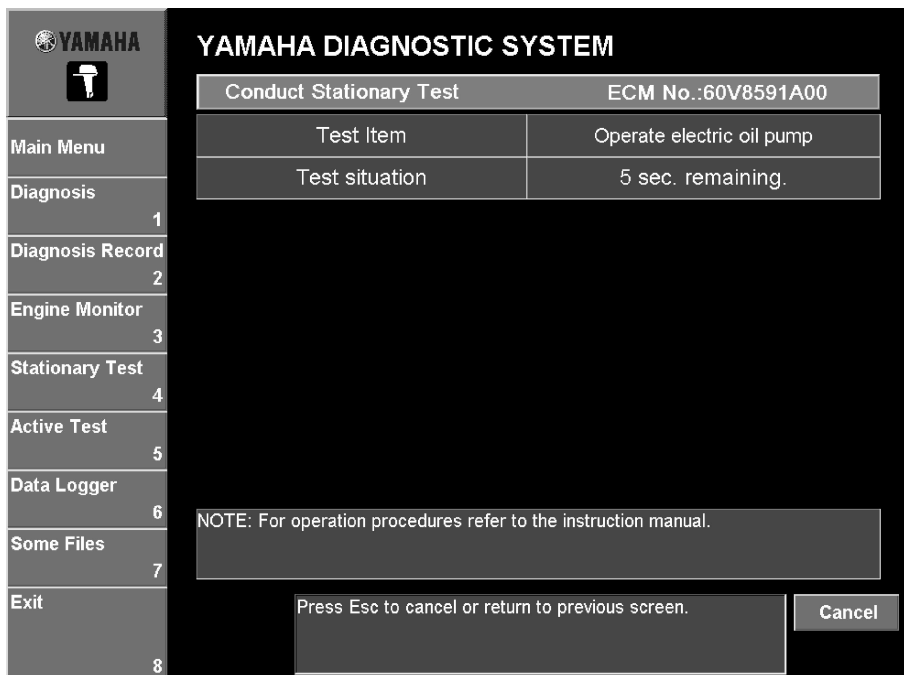

Fig. 56
4. Check that oil flows from the electric oil pump hose end. (Fig. 56)